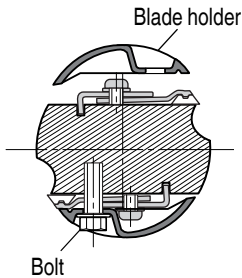

Fig. 25
- (6) As shown in Fig. 25, place the blade holder on the completed assembly and fasten it with the three bolts. Ensure that the bolts are securely tightened. Follow the same procedures for the opposite side carbide blade.